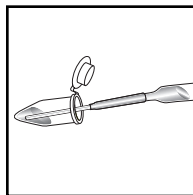

Figure 2
3. Fill the micro-test tube approximately halfway with **your sample** (fig 2).
5. Holding the VACUette almost horizontally, touch the tip to the contents of the micro-test tube (fig 2).